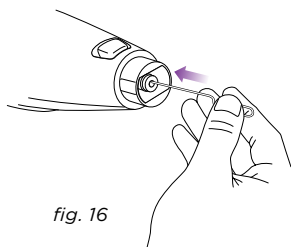

fig. 16
- 2 Use a small diameter stiff metal wire, such as a straightened metal paperclip, and carefully insert the end of the wire into the nozzle orifice. (fig. 16)